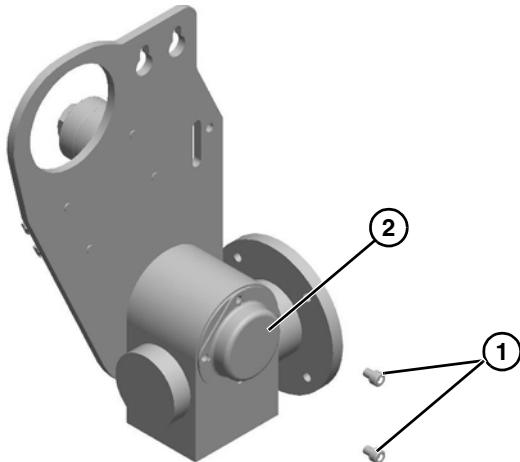

Figure 32
6. Remove two screws (Figure 32, item 1) and detach output shaft cover (Figure 32, item 2).